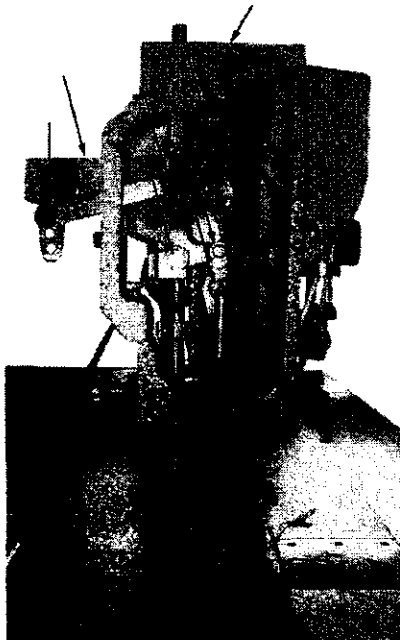

Fig.2
OILING (Figs. 2, 3, 4 & 5)
1. Oil should be applied at each of the place designated by arrows in Fig. 2, 3, 4&5.